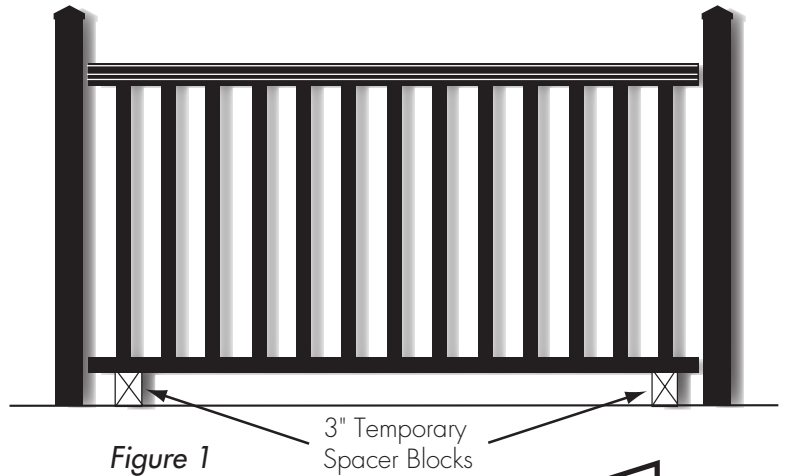

Figure 2
- 4.) Slide top and bottom rail brackets on ends of pre-built rail sections *Figure 2*.